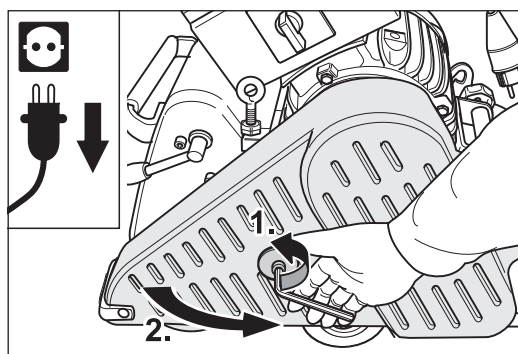

Fig. 42 Pull the power plug out of the socket and open the belt guard.
- 5 Open the belt guard (Fig. 42).